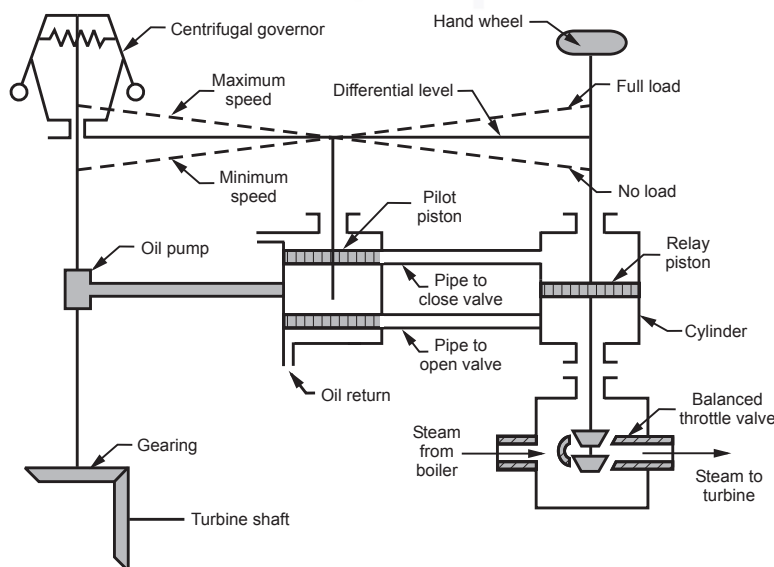

Fig. 3.51 : Throttle governing of steam turbine
- Fig. 3.51, shows the simple throttle arrangement. The purpose of throttle governing is to throttle the steam whenever there is reduction in the load as compared to design load before it is supplied to the turbine.